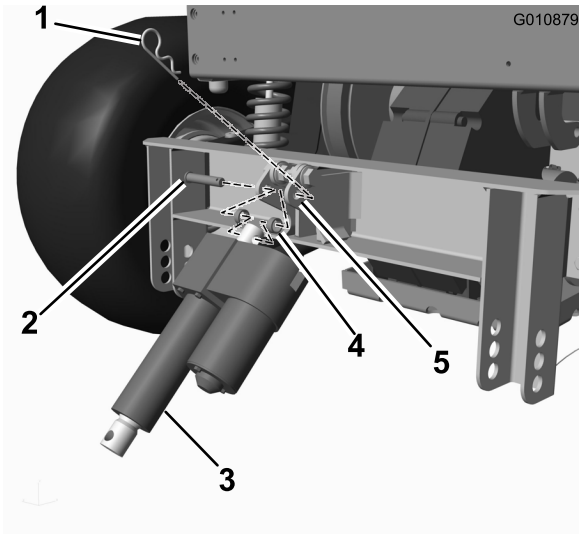

Figure 5
- Secure the actuator to the lift with the clevis pin, two spacers and hairpin cotter (Figure 5). Position the actuator as shown in Figure 5.